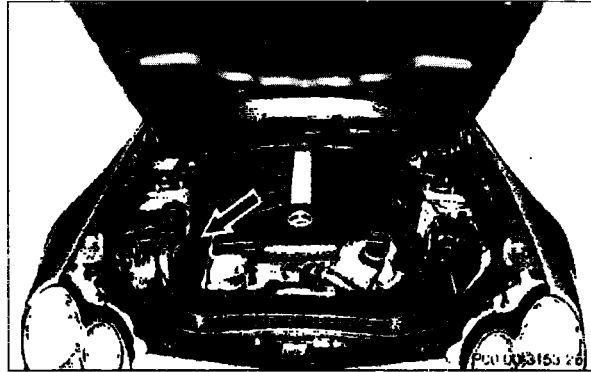

Figure 3
2. Remove right intake air duct (arrow, Figure 3).